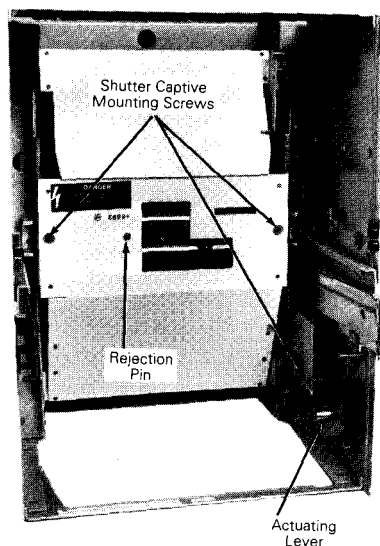

Figure 9. Closed shutters installed in 2500-4000 A substructure.
1. Align the captive mounting screws, located in the middle of each shutter side frame, with the tapped holes in the nut channel, as shown in Figure 9. An additional captive screw on the right side of the substructure must be fastened to the right compartment side. Tighten the screws to a torque of 27–32 in-lb.